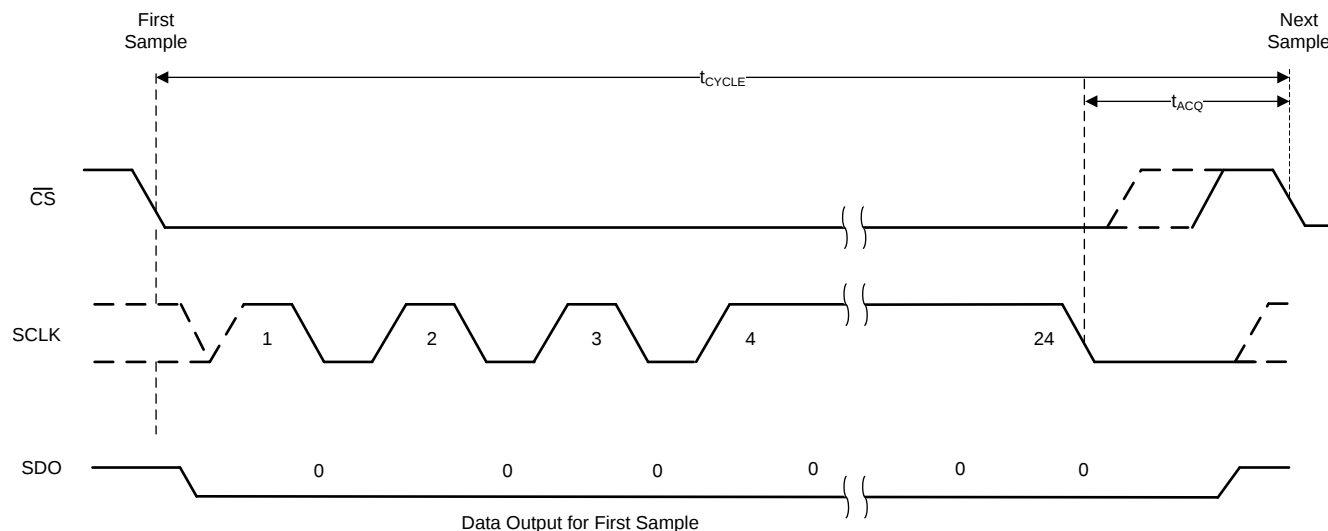
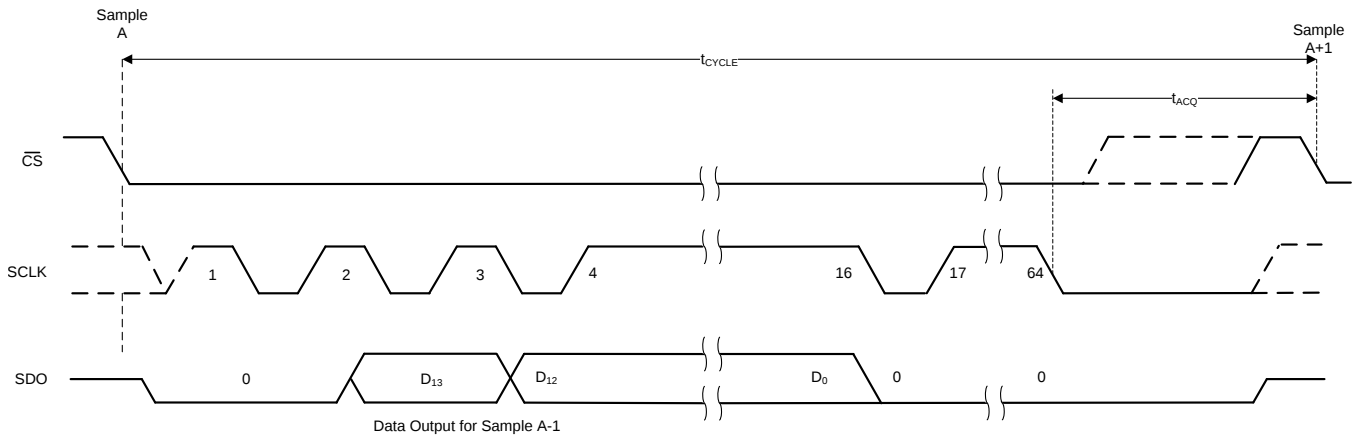

Figure 38. Timing for Offset Calibration on Power-Up
Figure 39. Timing for Offset Calibration During Normal Operation
The host controller must provide a serial transfer frame as described in Figure 38 or in Figure 39 to enter the OFFCAL state.
If the host controller starts the offset calibration process but then pulls the $\overline{CS}$ pin high before providing 24 SCLKs, then the offset calibration process is aborted and the device enters the ACQ state. Figure 38 and Table 3 provide the timing for offset calibration on power-up.
(1) In addition to the timing specifications of Figure 38 and Table 3, the timing specifications described in Figure 2 and the Timing Requirements table are also applicable for offset calibration on power-up.
If the host controller provides more than 18 SCLKs but pulls the $\overline{CS}$ high before providing 64 SCLKs, then the offset calibration process is aborted and the device enters the ACQ state. Figure 39 and Table 4 provide the timing for offset calibration during normal operation.
- (1) In addition to the timing specifications of Figure 39 and Table 4, the timing specifications described in Figure 2 and the Timing Requirements table are also applicable for offset calibration during normal operation.